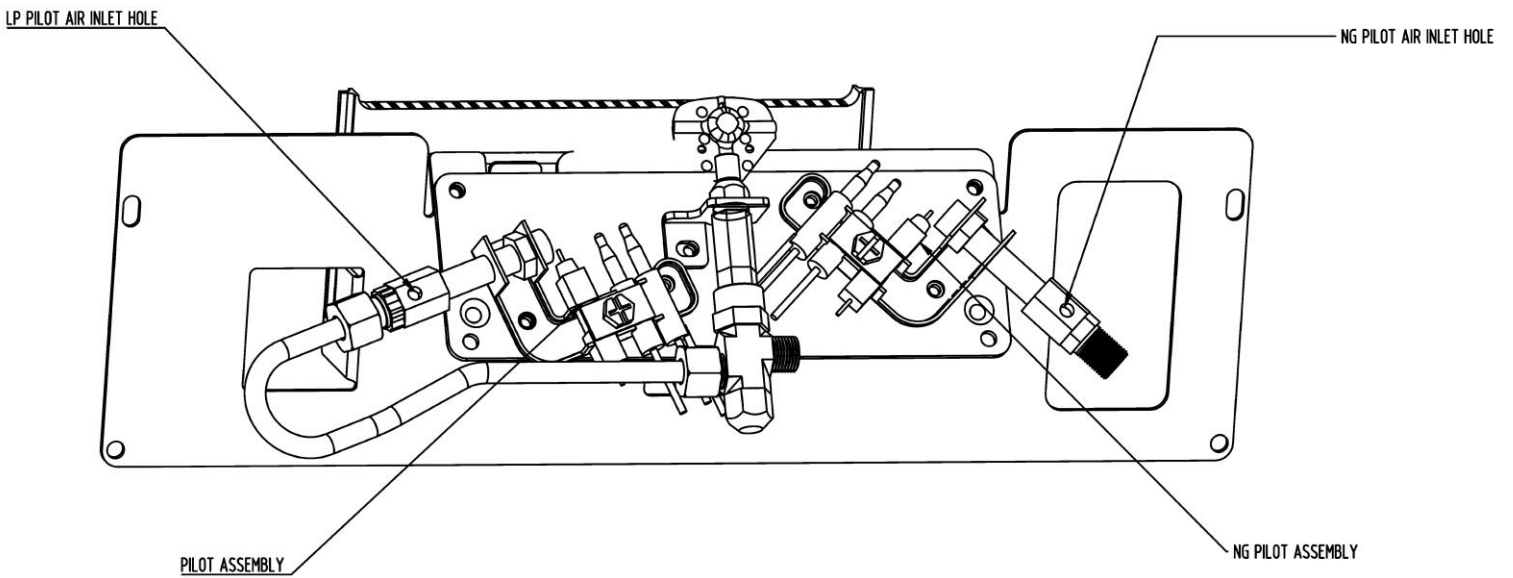
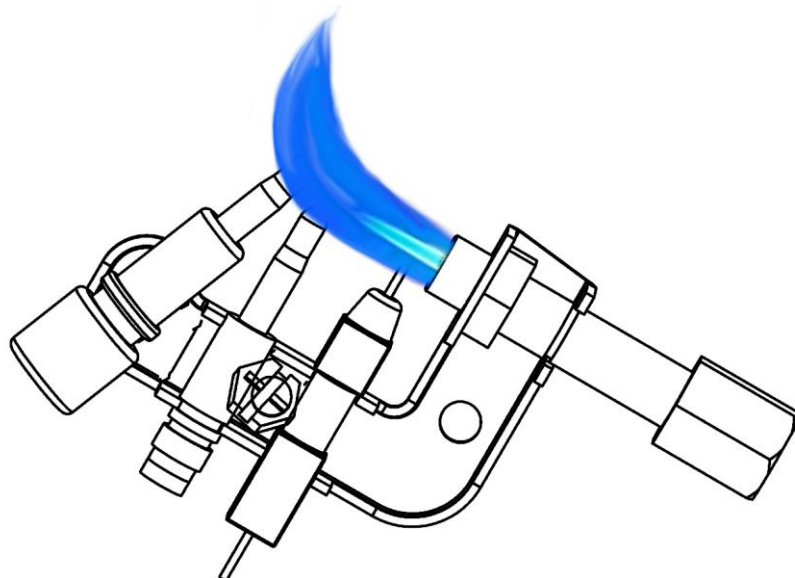

Figure 10 – Pilot System
Figure 11 – Pilot Blue Flame
Two pilot burners with ODS function for NAT and LP gas respectively are installed on burners two sides separately as shown in Fig. 10. The normal ODS pilot flame should have a correct pattern as shown in Fig. 11 in normal operation with exception during ignition stage.
3. Blow air through the ports/slots and holes in the burner. Also clean the pilot assembly. A yellow tip on the pilot flame indicates dust and dirt in the pilot assembly. There is a small pilot air inlet hole about two inches from where the pilot flame comes out of the pilot assembly (see Figure 10). With the unit off, lightly blow air through the air inlet hole. You may blow through a drinking straw if compressed air is not available.